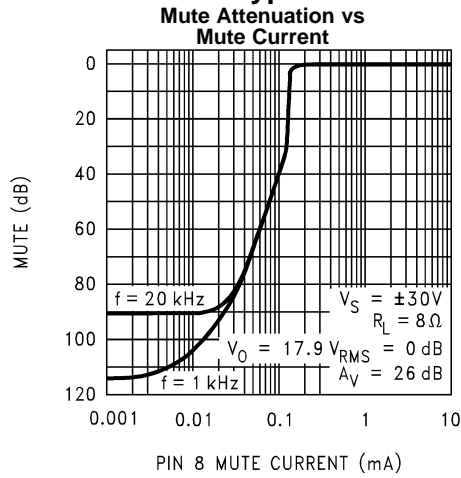

Figure 45.
12. R_M	Mute resistance set up to allow 0.5 mA to be drawn from pin 8 to turn the muting function off. → R_M is calculated using: $R_M \leq (V_{EE} - 2.6V)/I_8$ where $I_8 \geq 0.5$ mA. Refer to the Figure 44 and Figure 45 in Typical Performance Characteristics .
Mute Function: The muting function of the LM3886 allows the user to mute the music going into the amplifier by drawing less than 0.5 mA out of pin 8 of the device. This is accomplished as shown in the Typical Application Circuit where the resistor R_M is chosen with reference to your negative supply voltage and is used in conjunction with a switch. The switch (when opened) cuts off the current flow from pin 8 to V^- , thus placing the LM3886 into mute mode. Refer to Figure 44 and Figure 45 in Typical Performance Characteristics for values of attenuation per current out of pin 8. The resistance R_M is calculated by the following equation: